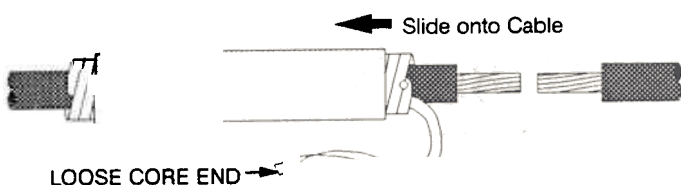

FIGURE 3
4. Slide cold shrink splice onto one cable. (*FIGURE 3*)